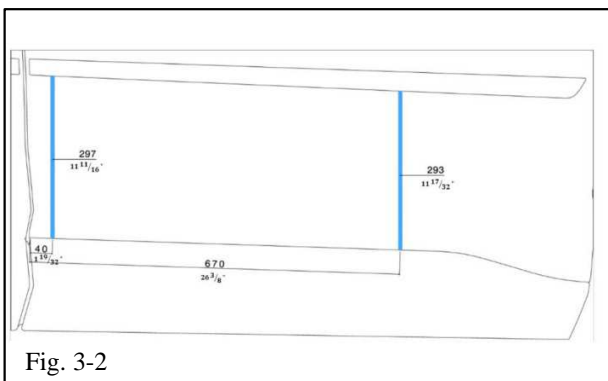

Fig. 3-2
- (c) Measure the locations along the upper edge of the front cladding, then measure the vertical locations for the front molding (mm or in.) (Fig. 3-2).